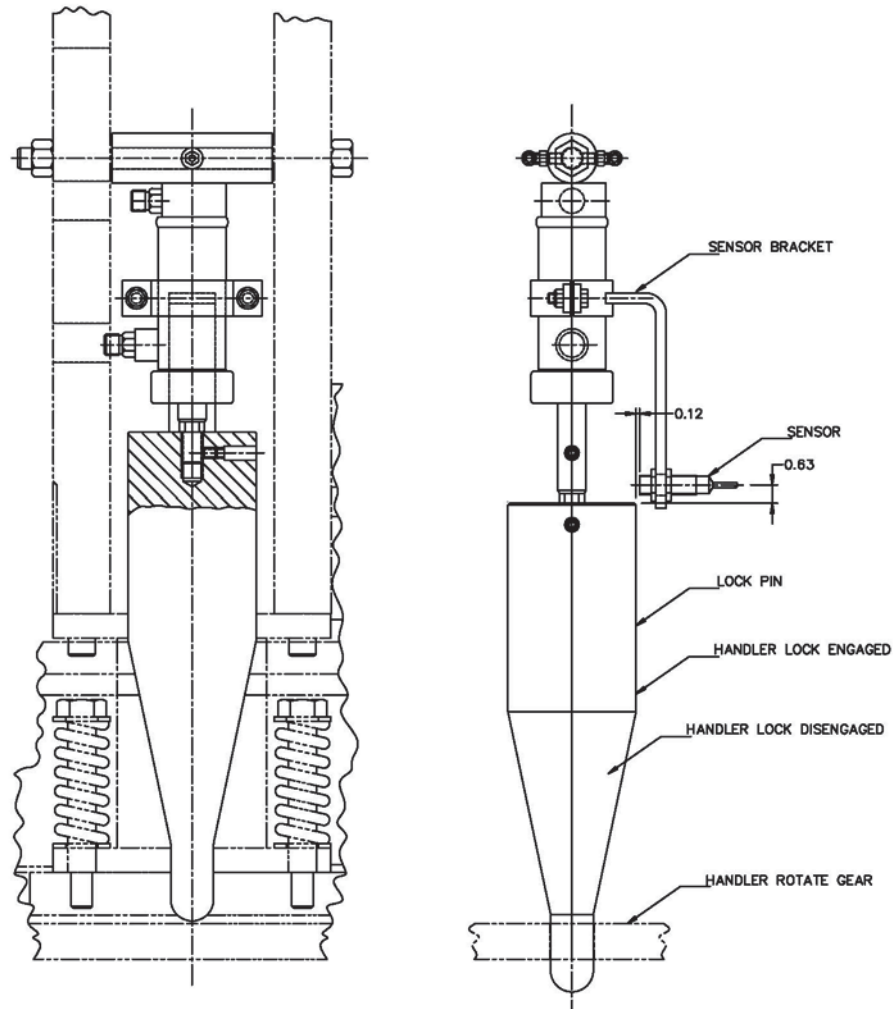

Figure 1: Adjusting the handler lock sensor.
3. Position the sensor bracket so there is 0.63 in. between the center of the sensor and the top of the lock pin when the cylinder is fully extended, or a gap of at least 0.25 in. between the bottom of the sensor and the top of the pin, as shown in Figure 1 on page 2.
5. Verify the sensor is still 0.12 in. away from the side of lock pin and 0.63 in. above the top of the lock pin, as shown in Figure 1 on page 2.